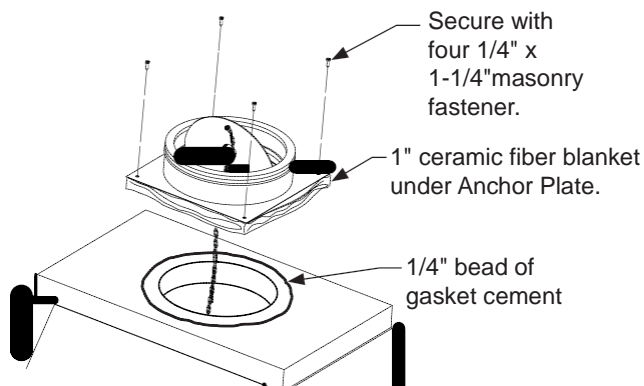

Figure 47 - Installing Anchor Plate
14) Finally, set the Dome Top into position (Figure 47, page 27). Be sure that it is flush in every direction as you place it on the crest of the smoke dome wall assembly. After this is done, proceed to section on Installing Damper and Chimney System on page 28.
Apply balance of gasket cement in a 1/4" bead on top of smoke dome approximately 1 1/2" around periphery of chimney hole. Install damper assembly on top of unit pressing damper and insulation blanket into cement (Figure 47). Secure with four 3/16" X 1 3/4" masonry screws (included).